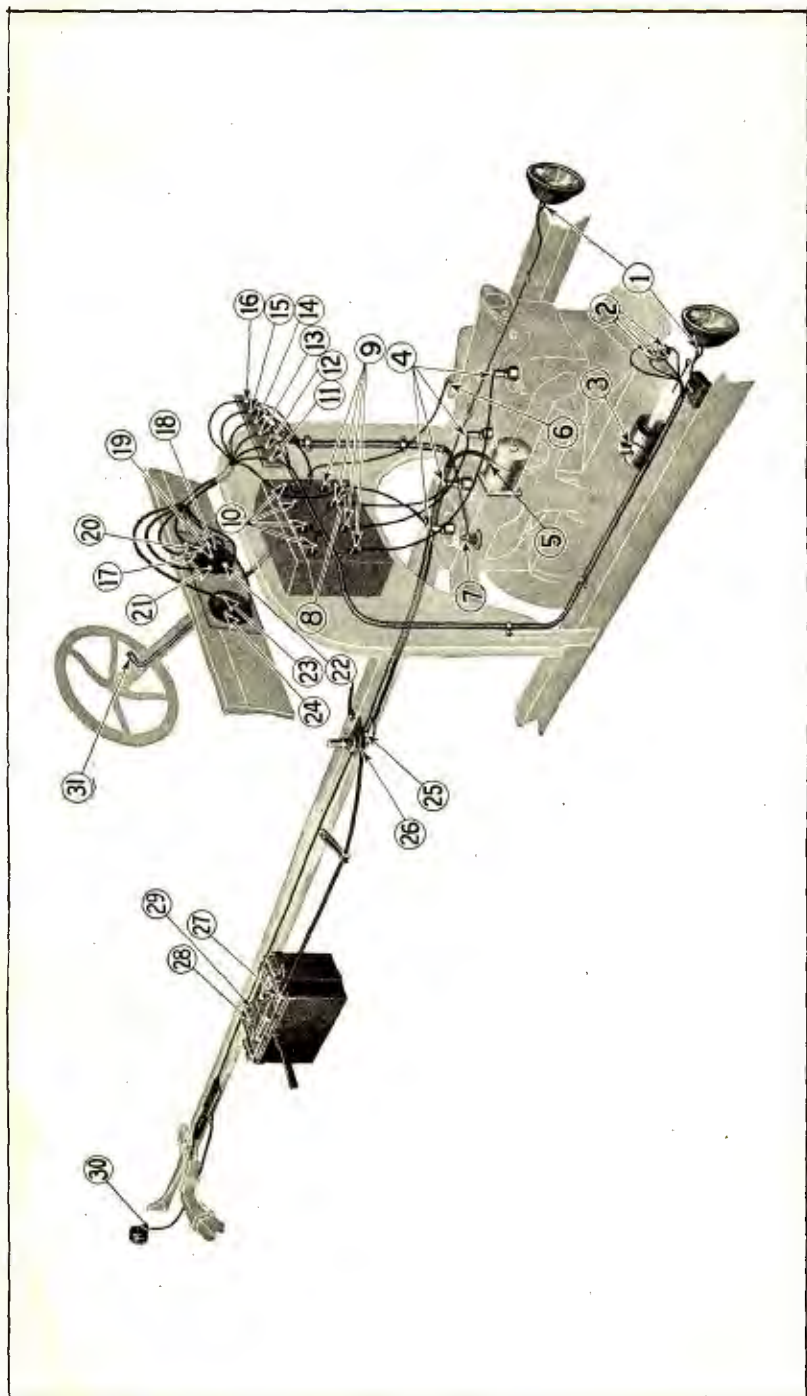

Fig. 498
- 988** If no spark occurs when the starting switch terminals are shorted as described in Par. 983, the trouble is probably due to loose or dirty connections. Examine connections at starting motor terminal, point 5 (Fig. 498), starting switch terminals, points 25 and 26, positive and negative posts on battery, points 27 and 28 and battery ground connection on frame, point 29. If connections are clean and tight, the trouble lies in the starting motor, and it will be necessary to remove the starting motor and check for shorts and grounds or shaft bushing binding on armature shaft as described in Chapter XXXVII.
- 990** If the trouble indicates itself as lying in the ignition system, remove and inspect commutator case and spring as described in Par. 1003. If the commutator is O. K., examine magneto and battery wire terminals on terminal block, points 12 and 13 (Fig. 498); ignition switch wire terminal at point 8, commutator terminals on coil box, point 10, also the two soldered connections on terminal to bus bar
- 991** If the car is not equipped with a starter and fails to start when turned over rapidly with the hand crank and with the switch key turned to point marked "MAG," check the spark plugs as described in Par. 989 to determine whether the trouble lies in the ignition or fuel system. If the trouble indicates itself as lying in the ignition system, inspect the magneto contact post. While someone cranks the car, short the magneto contact post, point 7 (Fig. 498) by placing the ends of a pair of pliers, or a screw driver on the contact post and transmission cover and moving the end of the pliers or screw driver back and forth on the cover to make a good contact. If a good live spark occurs the magneto is O. K. (See Par. 999). If no spark or a very weak spark occurs, remove magneto post and examine contact spring to see that it is not weak, or broken, or that there is no dirt or foreign matter between the contact and contact post spring. After cleaning the contact point and contact post, replace magneto terminal and again short the terminal to cover. If no spark, or a very weak spark occurs the trouble is due either to excessive end play in the crankshaft, weak magnets or a ground or short in the magneto coil assembly.
- 993** If there is no appreciable end play in the crankshaft, the strength of the magneto should next be checked. An easy way to prove a weak magneto on a car not equipped with a battery is to run one wire from a six volt storage battery or three or four dry cells to the left hand terminal connection on the terminal block when facing front of dash (See point 11 Fig. 498), and the other wire to some metal part of the engine. Turn the switch key to the right instead of the left and try starting the engine. On cars equipped with starters simply turn switch key to point marked "Bat".
999 If a spark occurs after shorting magneto contact post, as described in Par. 991, remove the commutator and inspect commutator case and spring as described in Par. 1003. If commutator is O. K., examine all connections on coil box, terminal block, and back of switch as outlined in Par. 990, and see that they are clean and tight. If the trouble is not due to a loose connection at these points, place the ends of a pair of pliers on the magneto and coil terminals on back of switch, points 19 and 20 (Fig. 498), while some one cranks the car. If the car starts, the trouble lies in the ignition switch and a new switch should be installed.